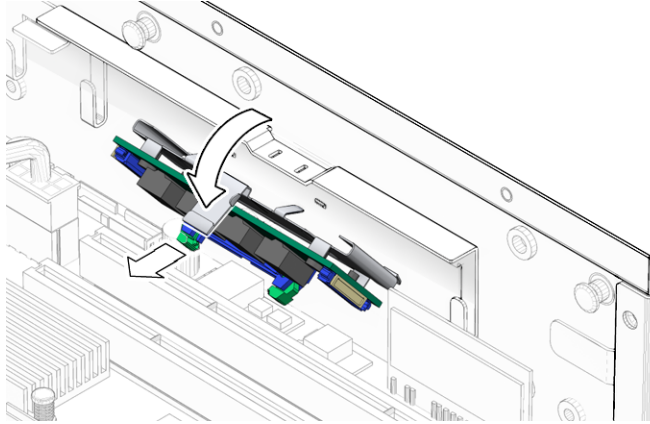

FIGURE 3-78 Lifting the Alarm Board Out of the Chassis
3. Push down on the green tab, pivot the alarm board inward, and lift the alarm board out of the chassis (FIGURE 3-78).